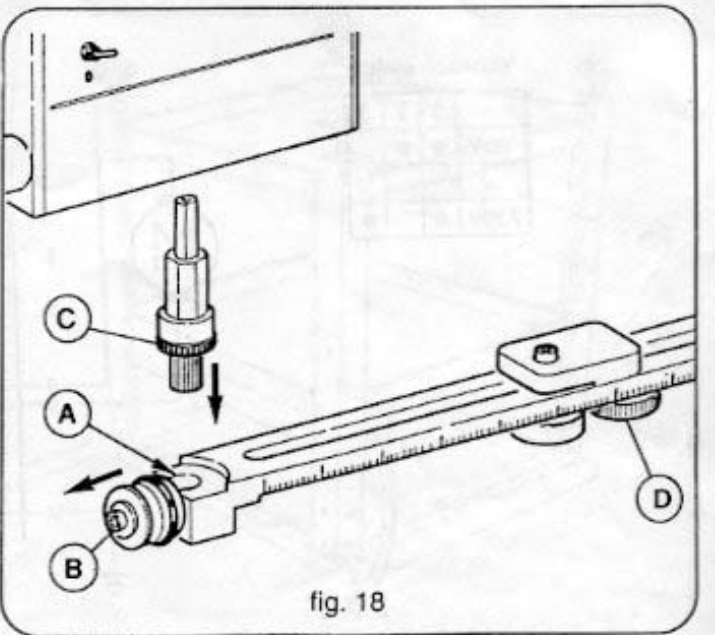

fig. 18
**4.3 CUTTING USING THE COMPASS (fig. 18)**